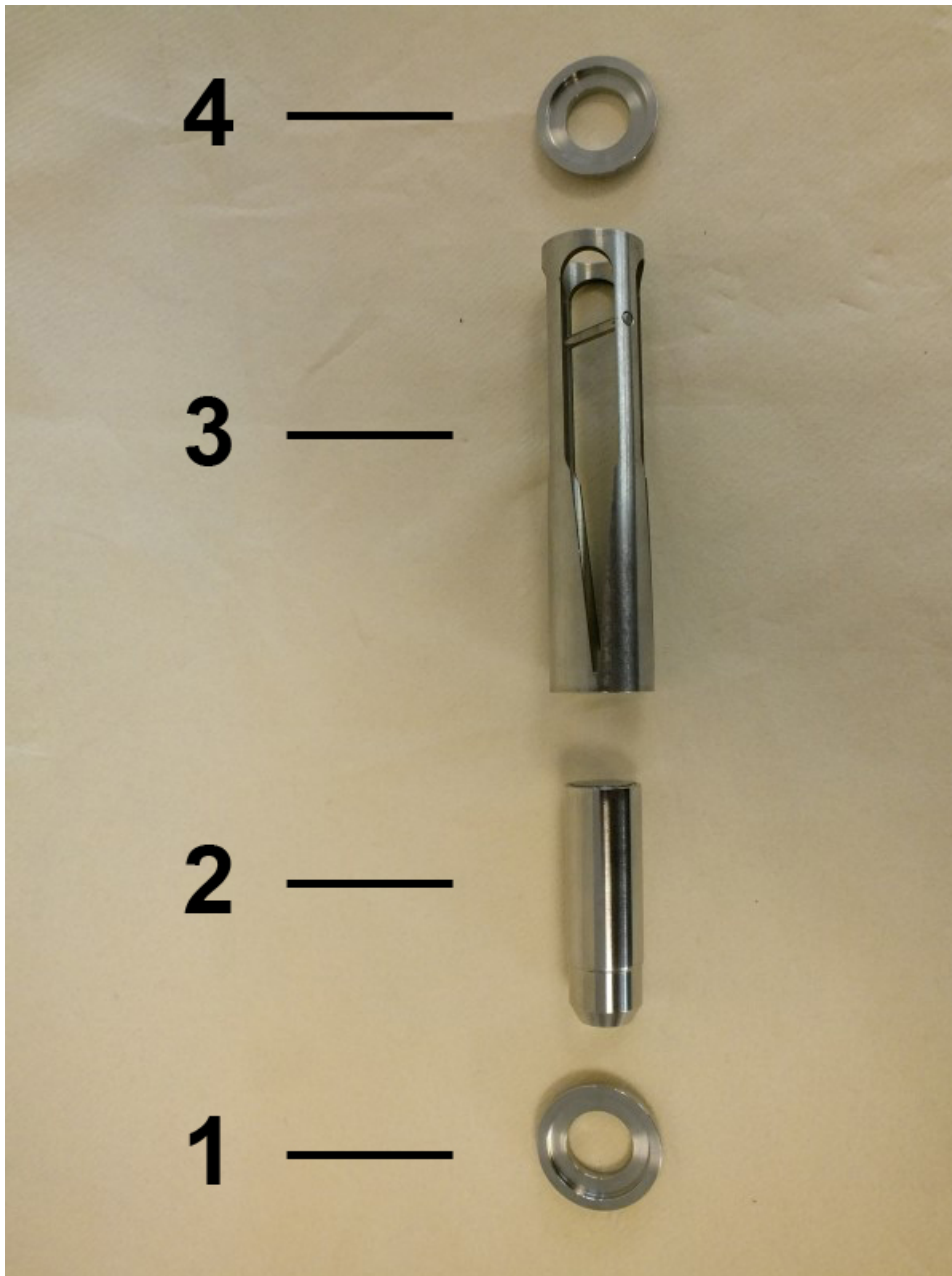

Fig. 52: Inner parts
- 6.** ➤ The inner parts of the flow monitor consists of the centering disc (inlet) (*Fig. 52/1*), float (*Fig. 52/2*), slot nozzle (*Fig. 52/3*) and centering disc (outlet) (*Fig. 52/4*).